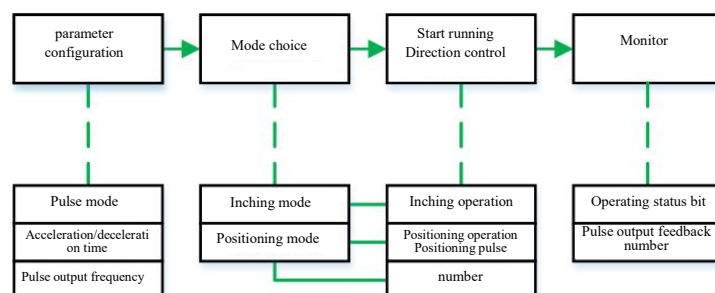

Figure 6-3-2 Basic configuration process
- In the high-speed pulse output module, there are three signal types: differential, NPN, and PNP, but the modules are used in the same way. The input and output are shown in Table 6-3-2 and the basic configuration process is shown in Figure 6-3-2.